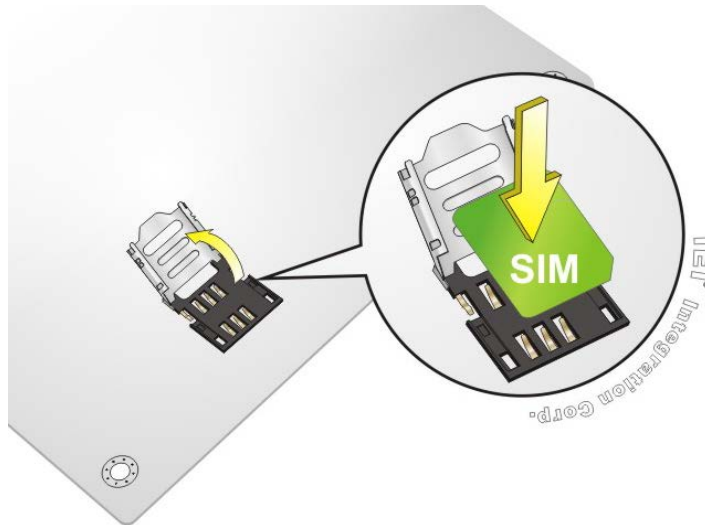

Figure 3-6: SIM Card Installation
Step 4: Open the slot cover and place a SIM card onto the slot. The cut mark on the corner should be facing away from the slot as shown in **Figure 3-6**.